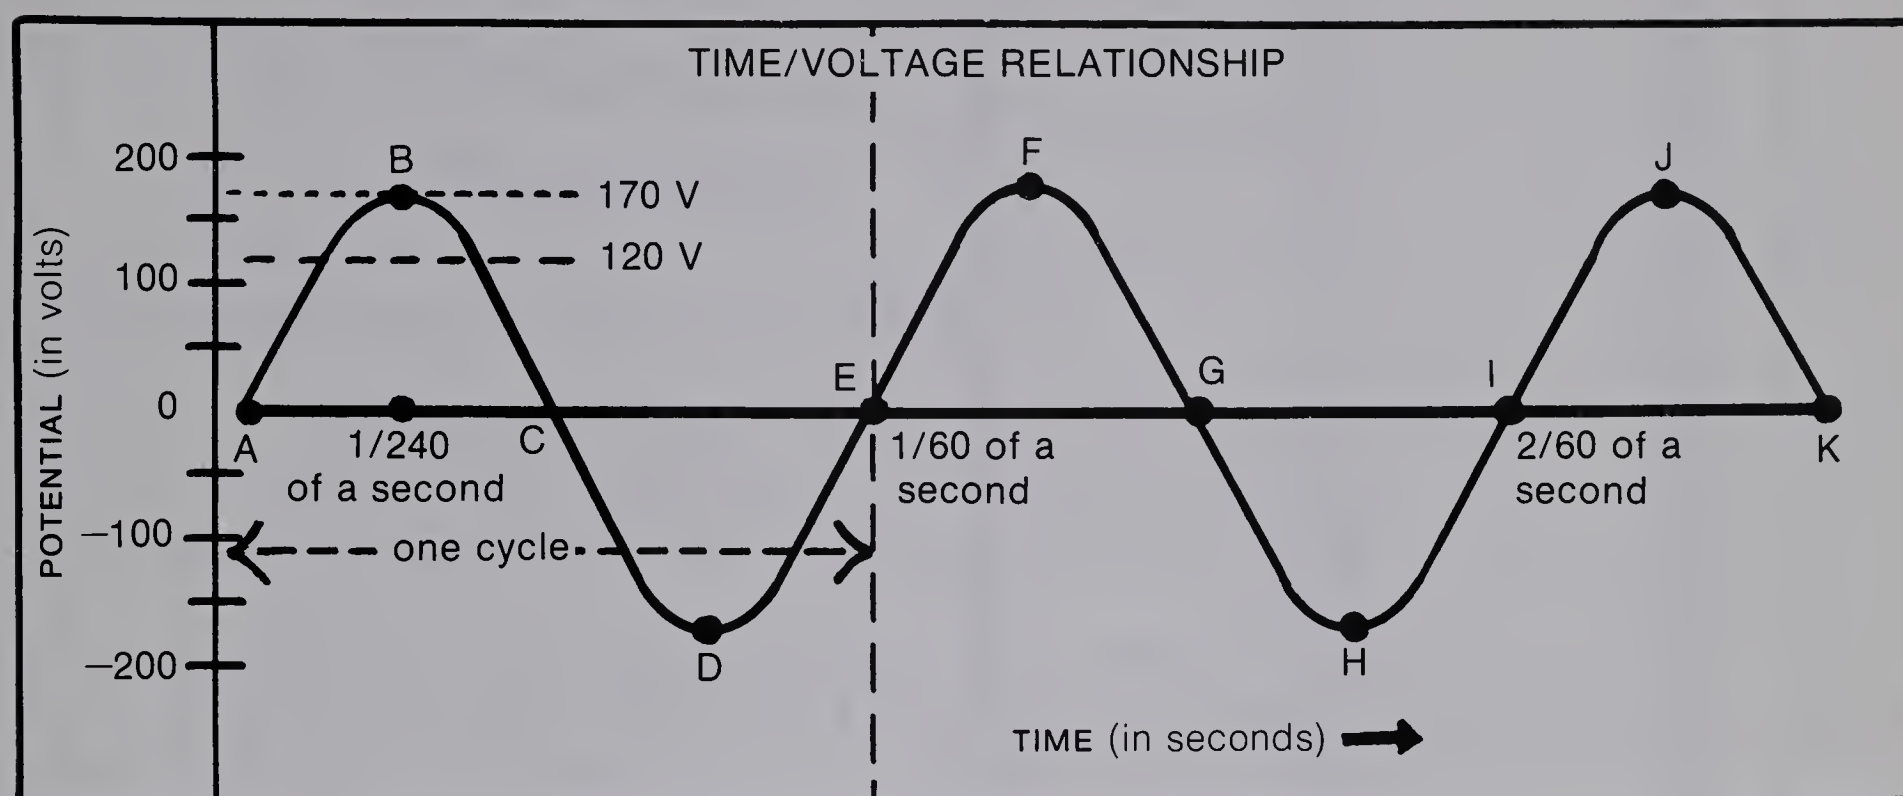

Figure 12-2
Consider what is happening at the wall socket. One of its terminals is grounded and remains steady at ground potential, or zero volts. The potential at the other terminal is varying, as shown in Figure 12-2. If you're not sure you know how to interpret this graph, read *Resource Unit 2*.
• 12-8. In Figure 12-2, how many cycles are completed in one second?
Figure 12-2 shows that the so-called 120-volts AC potential is actually changing constantly. A steady DC potential of 120 volts will cause a light bulb to burn just as bright. It turns out that the effective value of either AC potential or AC current is about 7/10 of its maximum value. Thus, the potential shown in Figure 12-2 has a maximum positive value of 170 volts and a maximum negative value of 170 volts. Its effective value—120 volts AC in this case—is always positive and can be figured from either the maximum positive or the maximum negative values.